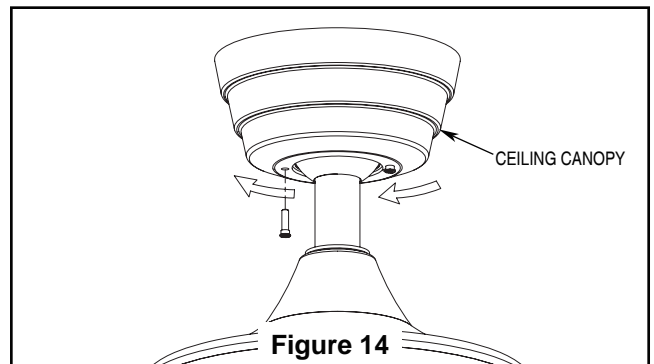

**Figure 13**
3. After splicing and making the wire connections, the wires should be spread apart and turned upward with the grounded conductor and the equipment-grounding conductor on one side of the outlet box and the ungrounded conductor on the other side of the outlet box. (Figure 13)